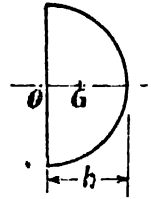

Fig. 4'33
10. Quadrant of an ellipse. (Fig. 4'34)